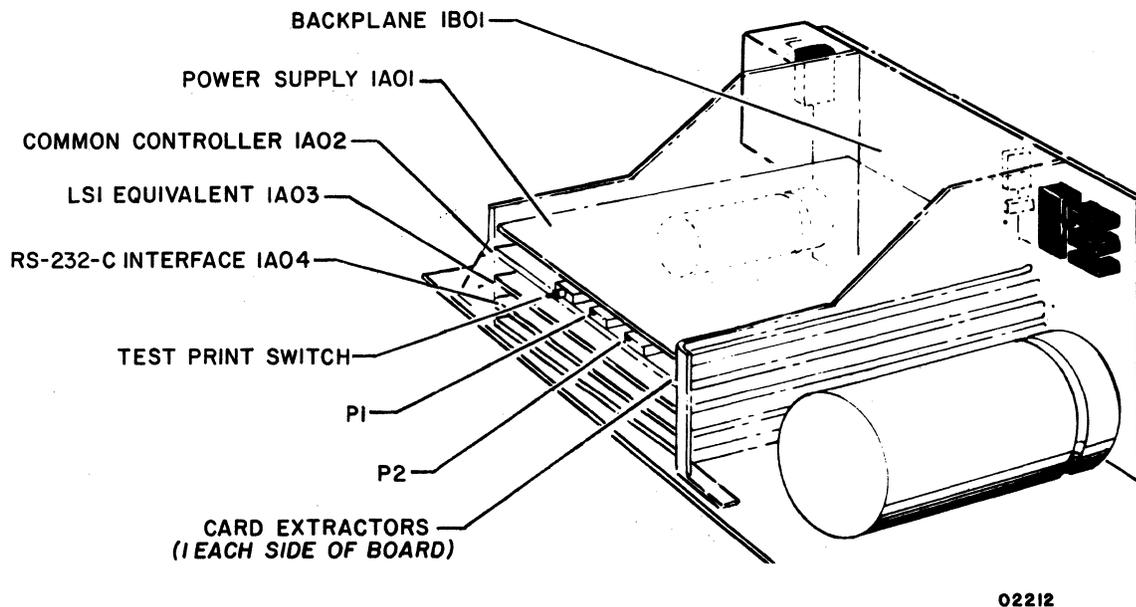

Figure A-12. Impact Printer PC Board Locations
- 5) Identify RS-232-C interface board, figure A-12, and then remove this board from chassis by releasing the thumb-lever friction clamps at each side of the board and pulling the board out of the chassis.
- 9) Replace RS-232-C interface board in printer logic chassis (see figure A-12) by sliding it into place, and then seating board in chassis receptacle by engaging card extractors.